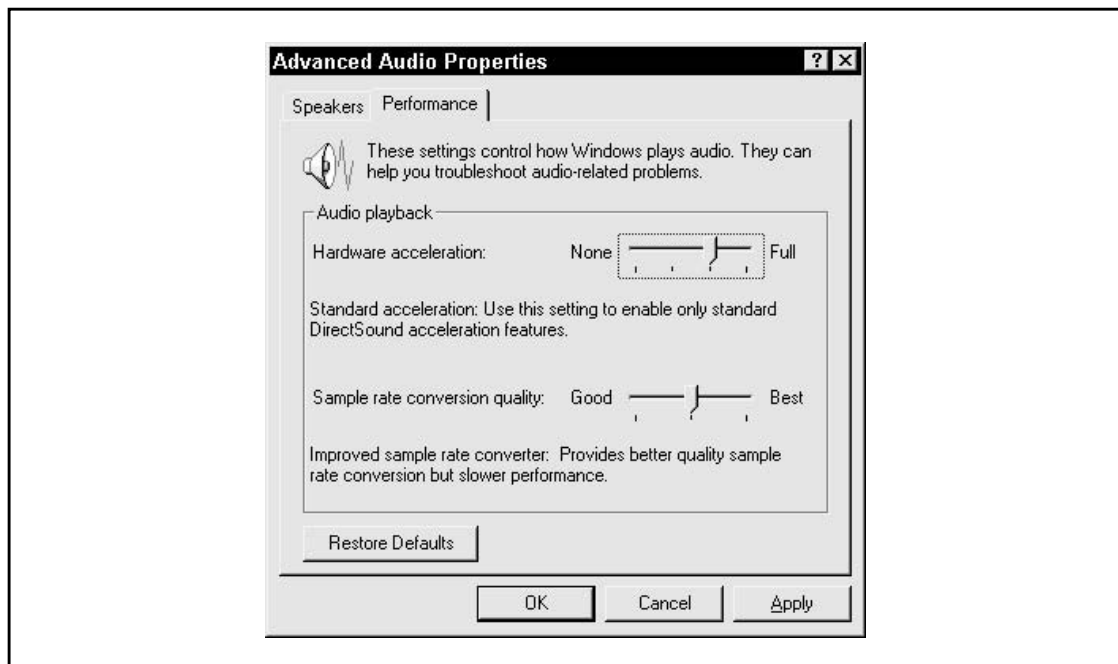

Figure 21-3. The Windows Sound Recorder's advanced features settings
- **Sample rate** Although it is expressed in kilohertz (kHz), the sample rate is the distance between samples captured in a sound file. So, indirectly the sample rate refers to the number of samples, or short bites of the sound, that are taken from the audio in a second. The sample rate used by CD-quality sound is 44.1 kHz, and it produces good results for most applications. Audio recorded for professional applications may be sampled at a higher rate to increase fidelity and provide more headroom for audio editing. Lower sample rates will use less disk space at the cost of audio quality. The maximum and minimum sample rate available is subject to the limitations of both the sound card and the software being used. The standard Windows Sound Recorder provides you with slide controls that allow you to balance the sound file's playback quality to its disk size on its advanced features tab, shown in Figure 21-3.